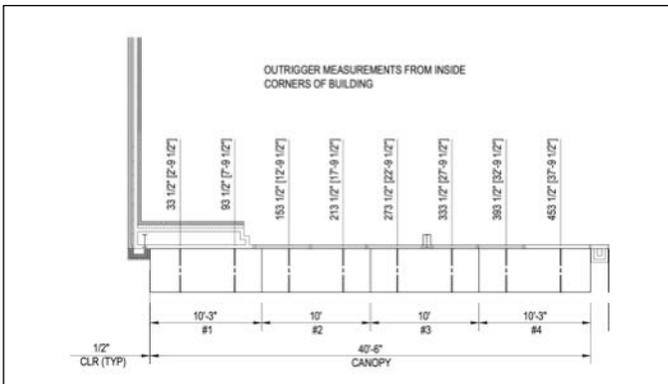
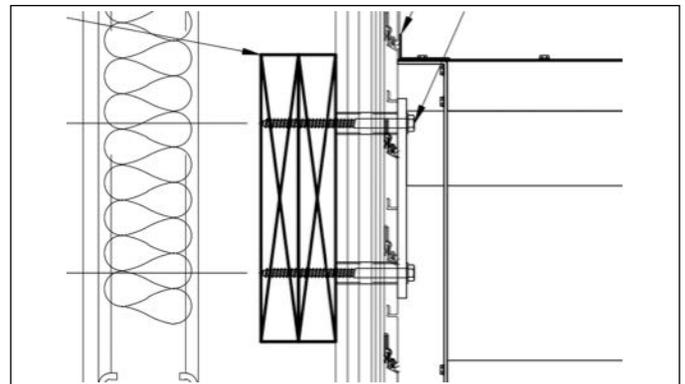

Fig 3
Fig 4
3. Once outrigger locations are marked per dimensions (Fig 3), drill required holes based on specified hardware (Found in drawing package - Fig 4). Seal back of outrigger plate with supplied sealant, secure using included fasteners (#6). Seal sides, top and bottom of plate.